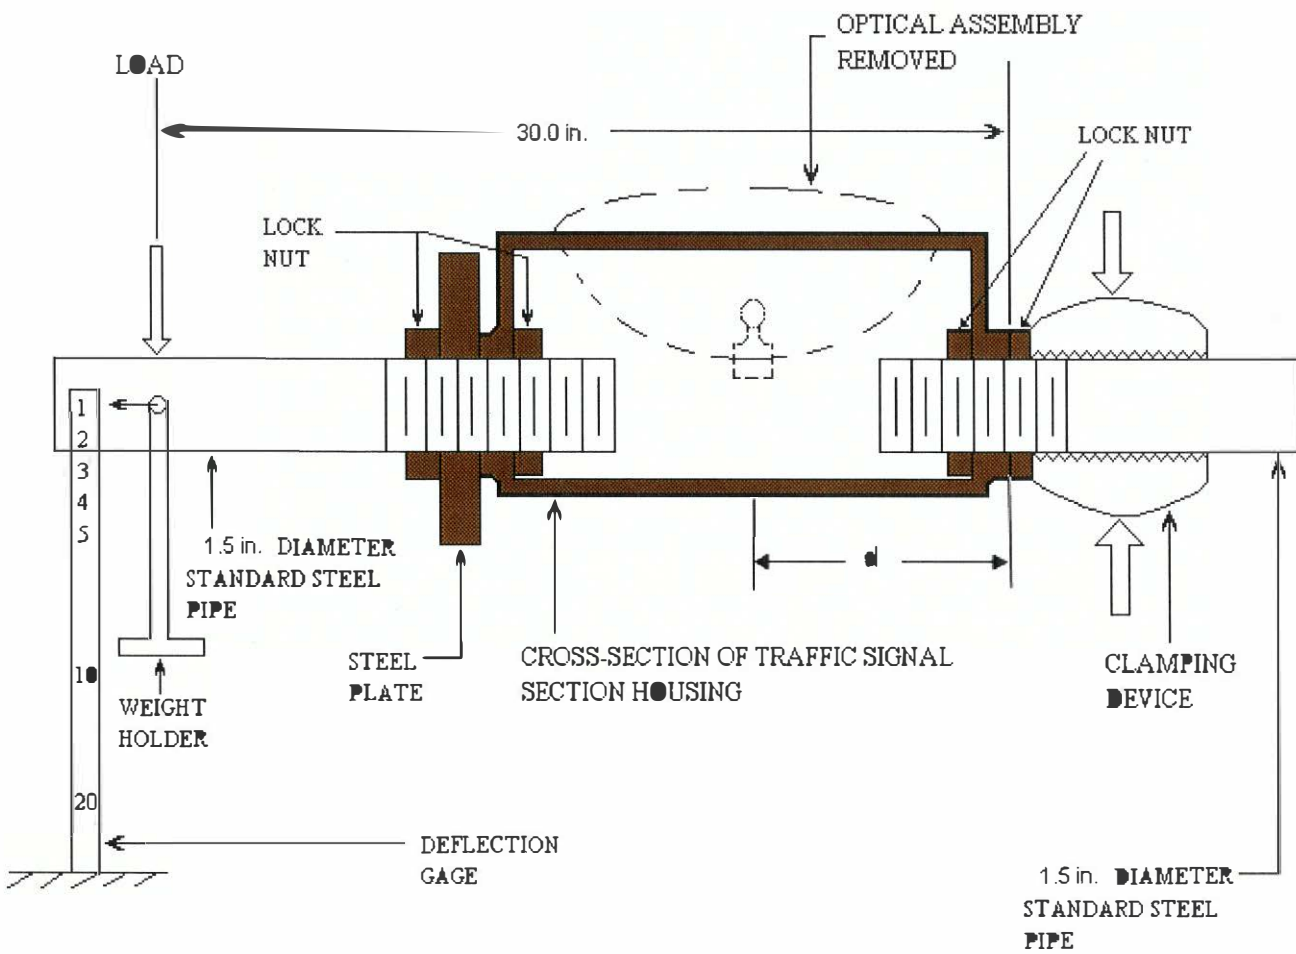

FIGURE 1. Side View
1. Assemble a single section, without the optical unit, as shown in Figure 1.
2. Slowly apply test load at point indicated on Figure 1.